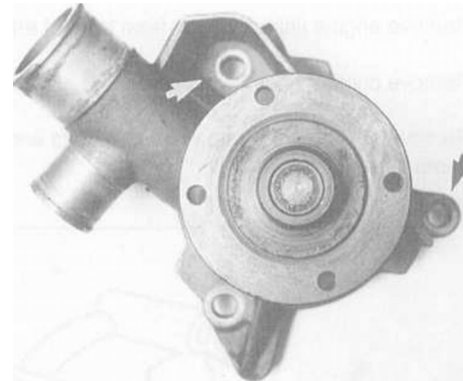

Fig. 9. Upper alternator bracket nut and wiring duct (arrows).
8. Working at front of camshaft drive belt cover, loosen upper alternator bracket mounting nut, and unclip plastic wiring duct from cover. See Fig. 9.